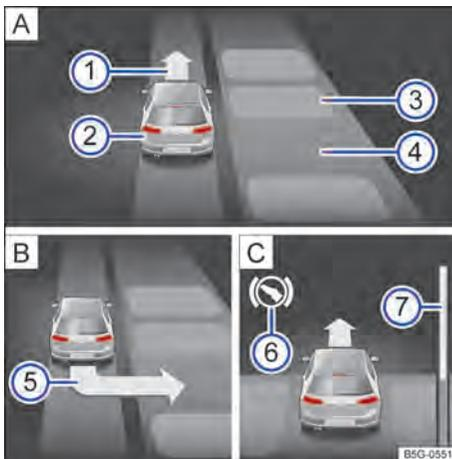

Fig. 115 On the instrument cluster display: park side by side. **A** Looking for a parking spot. **B** Parking position. **C** Manoeuvring.
- Park upon the recommended parking mode showing up on the instrument cluster display → **Fig. 115** **⑤** → page 141.
Key to → **Fig. 115** (side-by-side parking with reverse gear):
- Brake whenever a sound alarm prompts to change direction, the arrow → **Fig. 115** ① **A** lights up, the white **Ⓢ** symbol appears, or when a message is displayed.